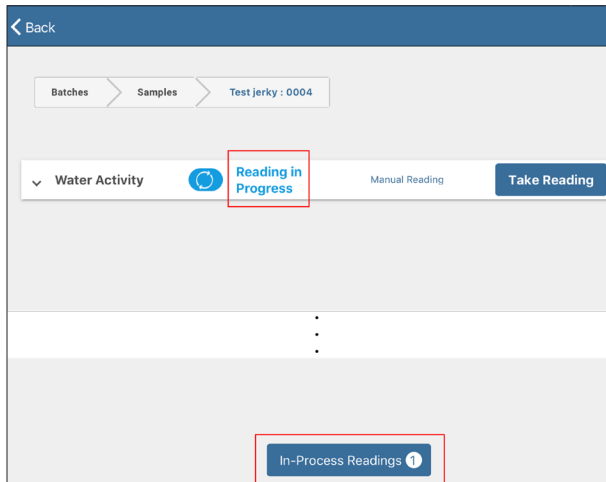

Figure 68 Reading in progress indicator
11. Select the **In-Progress Readings** button at the bottom of the Readings screen to see the In-Progress Readings dialog window with the reading status (Figure 68).